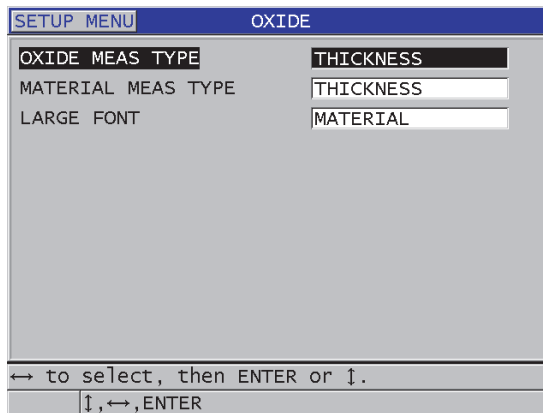

Figure 7-2 The OXIDE screen
9. In the **OXIDE** screen (see Figure 7-2 on page 110):